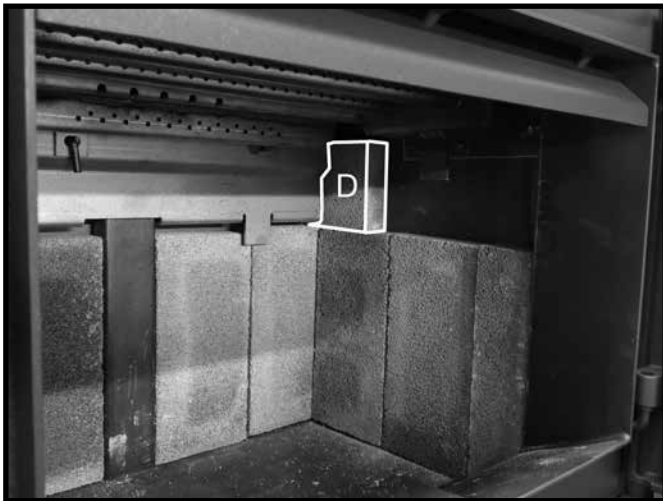

Figure 20: Small side wall firebrick in position.
3. Place a "D" firebrick on top of the previously placed "A" firebricks and slide this firebrick back toward the rear wall making sure that this firebrick tucks in behind the brick rail (Figure 20).